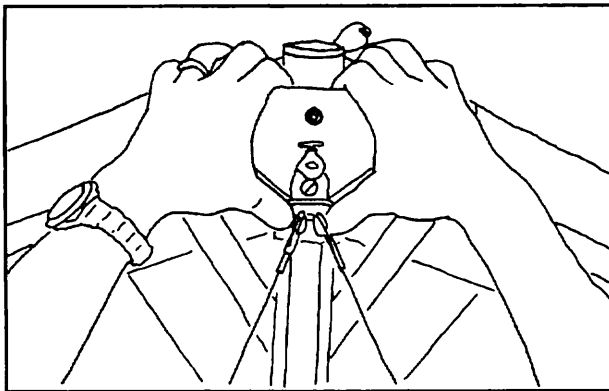

Figure 55
- 2) Detach the bottom nose wires by pulling down on the nose of the glider while pushing upwards on the plastic tang handle on the keyhole tang. (Figure 55)